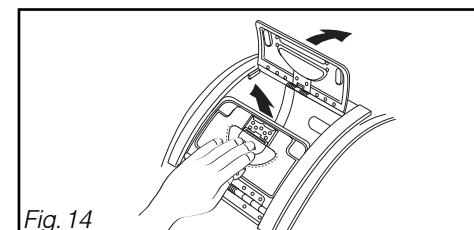

Fig. 14
- Open the drum by pushing on the knob located on the front door (Fig. 14).